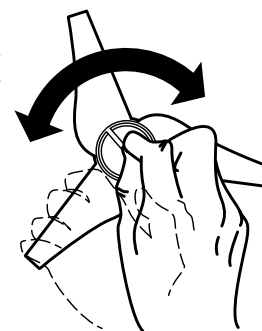

Fig. 8
2. To set the knob more precisely, hold the propeller secure with one hand while turning the knob with the other (Fig. 8). To select a higher setting with increased pitch, turn the knob clockwise. Or, turn it counter-clockwise to select a lower setting with less pitch.